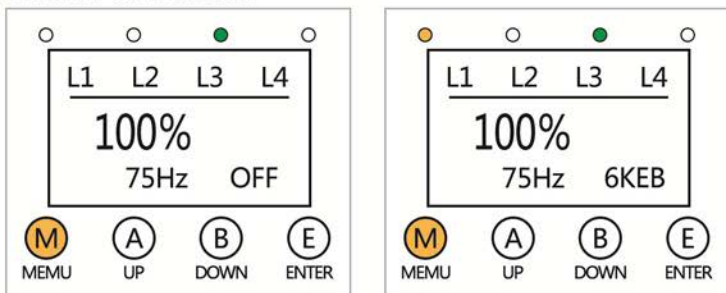

Fig.2 LCD display
- 1) When power on, the EB shows as the picture of Fig.2. After start-up, the EB is locked within 3 minutes, and all operations are invalid
Fine Tuning for 1000Hz frequency: press "A" on Fig 2 to go to "1000Hz" Fine Tuning interface. Adjust Dimming knob to adjust frequency between 800-1000HZ. Press Button B to back to main menu.